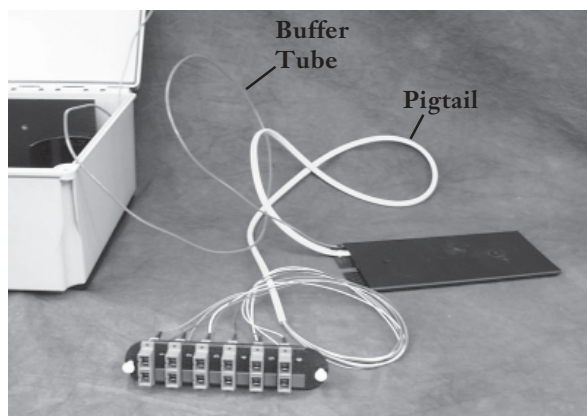

Figure 13
10.3 Panels can be ordered with a specific length of preconnectorized pigtail cable installed. Pigtails are fiber optic cables with connectors on one end that are installed into connector panels (Figure 13). The other end of the pigtail is terminated in a splice tray.